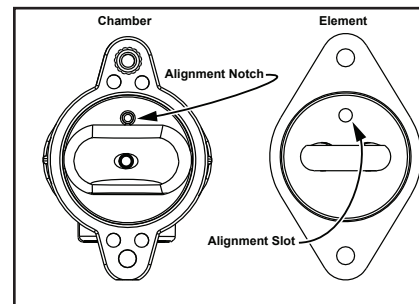

Figure 14 - Chamber Alignment Notch, Element Slot.
- Install the element, mating the element slot with the chamber alignment notch. Secure the element by sequentially tightening the mounting bracket screws. DO NOT overtighten screws. See Figure 14.